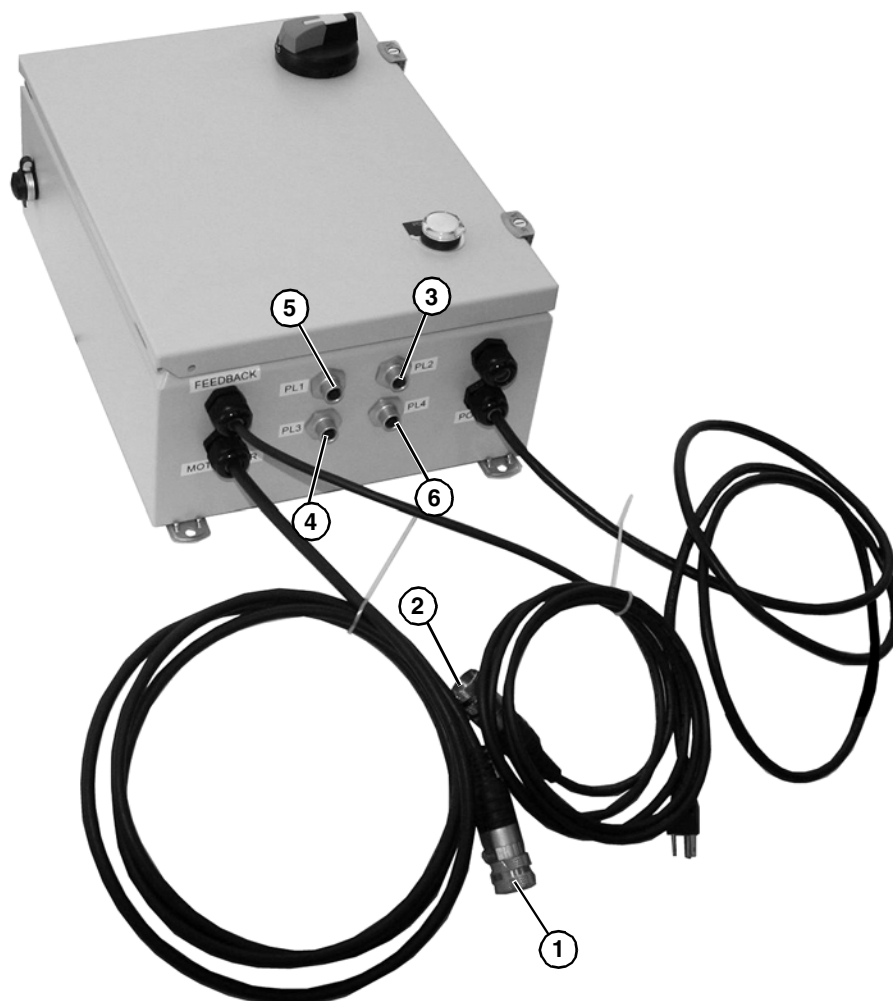

Figure 21
1. Connect motor power cable (**Figure 21, item 1**).
2. Connect motor feedback cable (**Figure 21, item 2**).
4. Locate and mount home Photo Eye Kit, Dorner **75M-PE-1**. Connect to PL2 (**Figure 21, item 3**).
5. Locate and mount registration photoeye, Dorner PN **75M-PE-1**, or other as required. Connect to PL3 (**Figure 21, item 4**).
6. If emergency stop is required, mount Dorner Push Button Station **75M-ES-2**, or other as required. Connect to PL1 (**Figure 21, item 5**). If no emergency stop is used, insert jumper into PL4 (**Figure 21, item 6**).